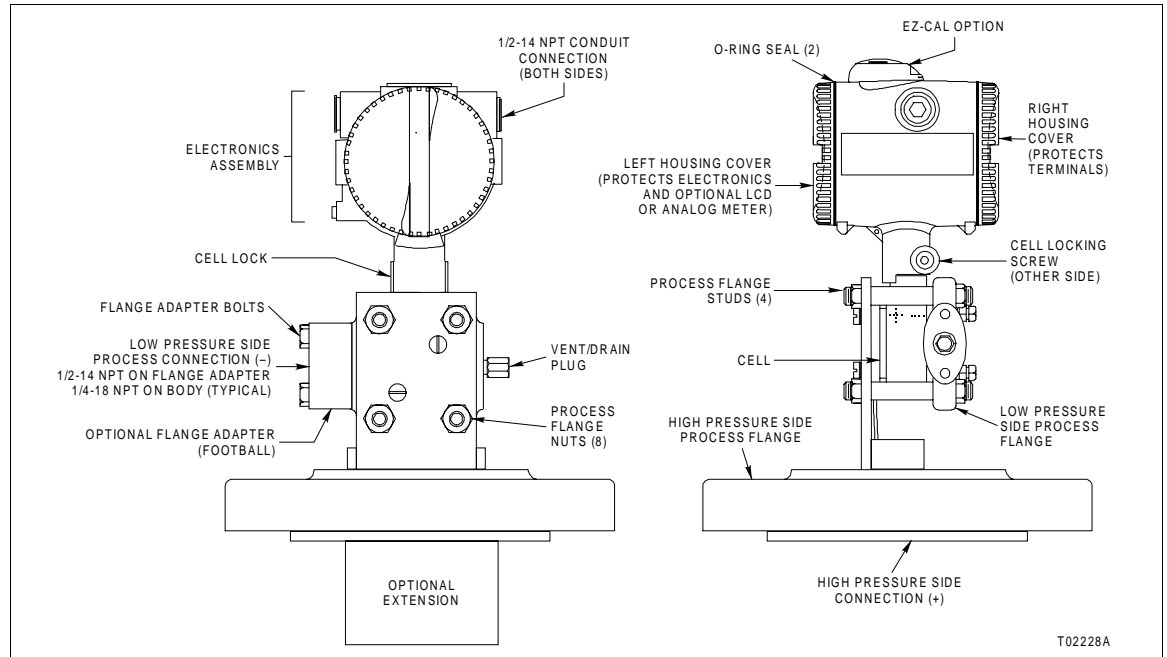

Figure 8-3. Type PTSDL Level Transmitter
2. Remove the left housing cover from the electronics housing (Fig. 8-3).
6. Use the 4-mm Allen wrench to remove the cell locking screw (Fig. 8-3).
7. Remove the cell lock (Fig. 8-3).
10. Install the cell lock and tighten the cell locking screw (Fig. 8-3).
2. Remove the housing covers from the electronics housing (Fig. 8-3). If the housing covers **do not** require replacing, go to Step 3. If the housing covers **do** require replacing, go to Step 6.
3. Remove the housing cover O-rings (Fig. 8-3).